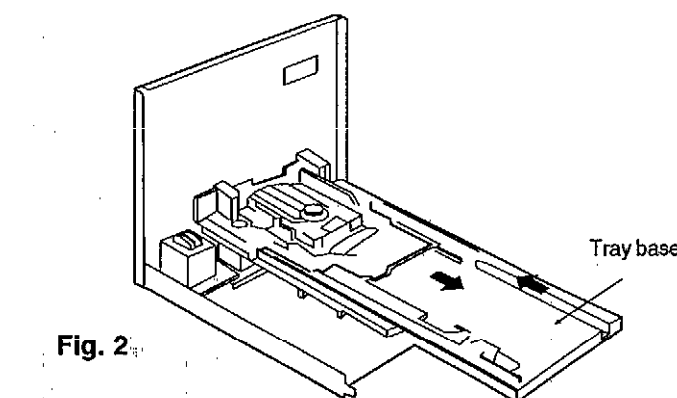

Fig. 2
3. After sliding the tray base in the direction of arrow ④, draw the tray base gradually in the direction of arrow ⑤. (See Fig. 2.) Slide the tray base until the tray base stops.